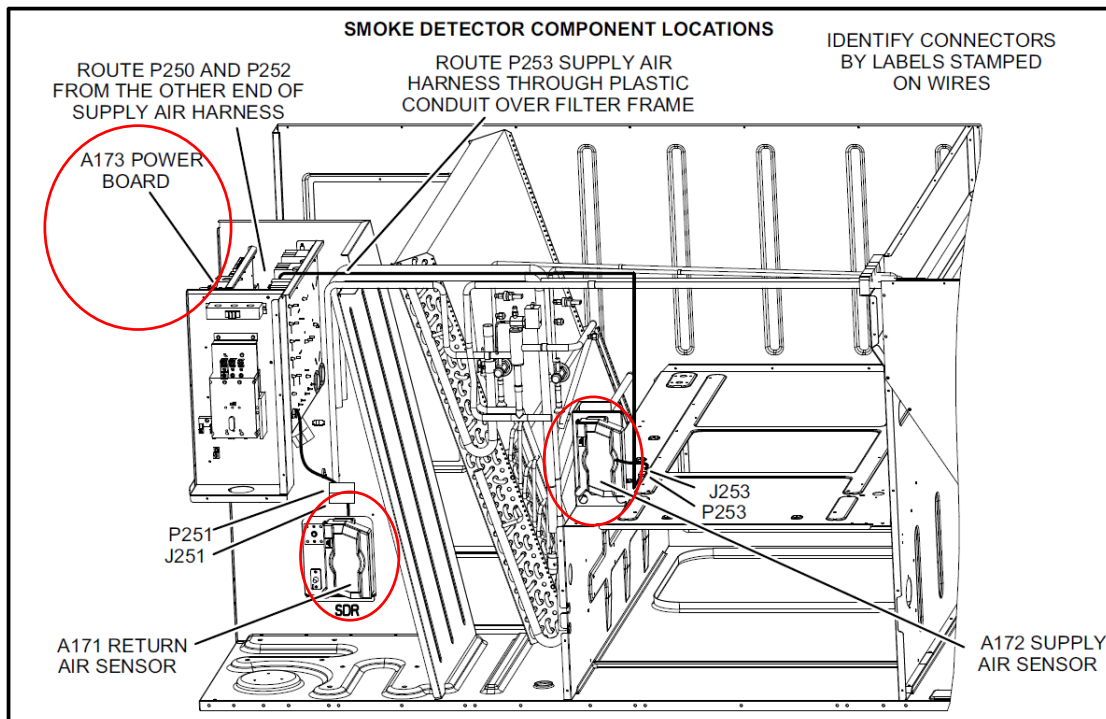

Figure 1. Smoke Detector Kit Component Locations
- a. Refer to the D4P120 & D4S Smoke Detector Kits Installation Manual – 506437, or Figure 1 below, for approximate smoke detector kit component locations.